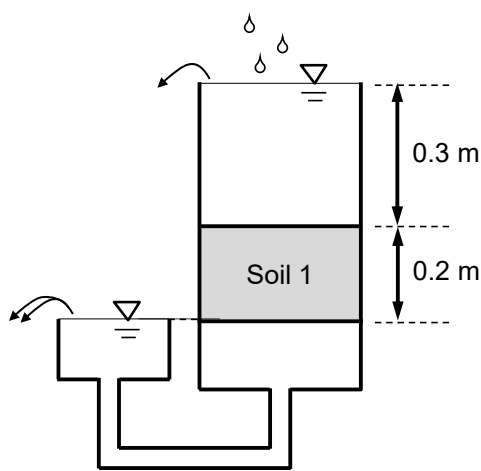

Figure 1
- (1) Determine the flow rate, Q_1 , when the constant head permeability test is conducted on Soil 1 as shown in Figure 1. The hydraulic conductivity of Soil 1, $k_1 = 3.0 \times 10^{-4}$ m/s, was obtained prior to this permeability test. The cross-sectional area of the specimen is 1.0×10^{-2} m², and the specimen is supported by mesh at the bottom.
- (2) Plot the variations of total, potential and pressure heads along the horizontal axis of a graph and label the vertical axis with elevations, under the constant-flow condition shown in Question (1). Assume that the bottom level of Soil 1 is the datum.